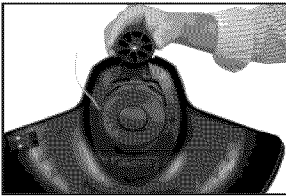

Figure 8 - Placing edging wheel over screw holes
6. Place edging wheel over remaining two screw holes at front of cutting guard. Attach edging wheel using two mounting screws. (See Figures 8 and 9)